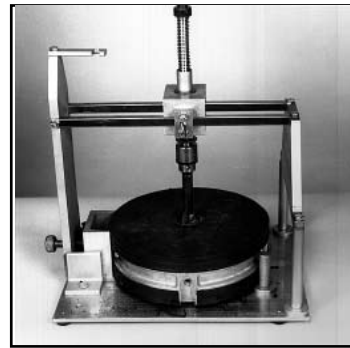
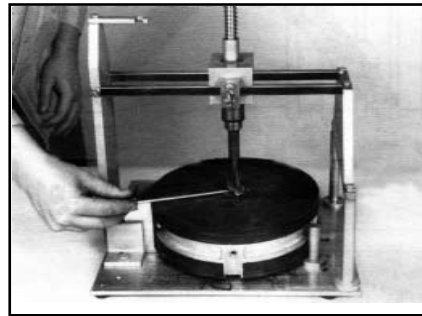

FIGURE 9 - CUTTING THROUGH PLASTIC SHELL
FIGURE 10 - REMOVING PLASTIC DISK
5.05 When using blades E-DD in the drill adapter, cut through the black plastic of the End Plate until foam is just visible in the outer ring. (Figure 9) Use a screwdriver to pop out the plastic disk (not necessary for A-D drill bits). (Figure 10)